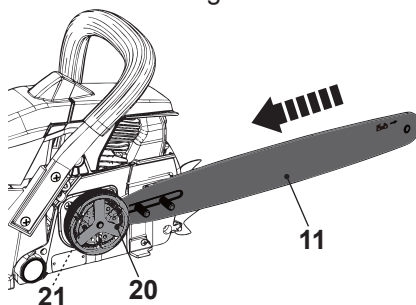

Fig. 3
4. Push the guide bar (11) to the left towards the guide sprocket (21) (behind the clutch (20)) (Fig. 3).